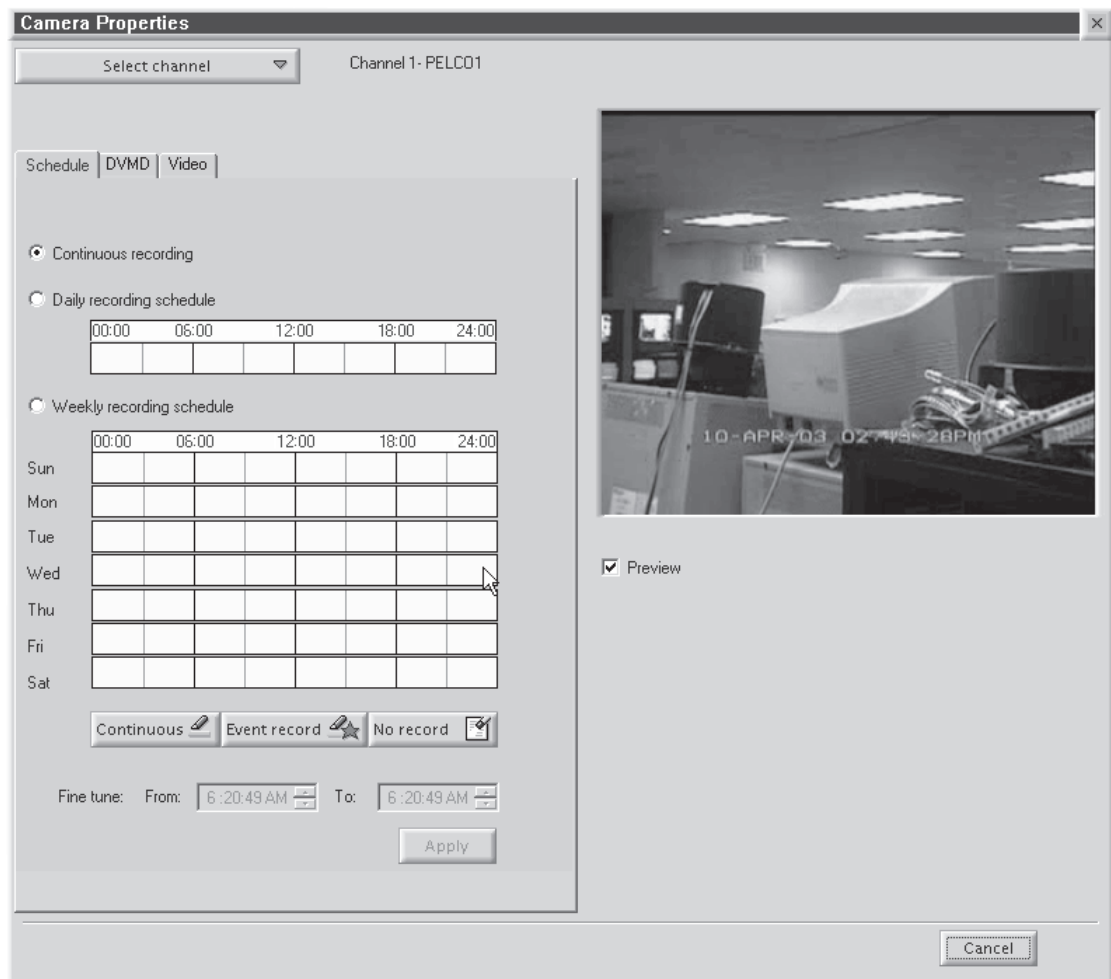

Figure 33. Continuous Recording Schedule Page
1. Select the "Continuous recording" radio button. This is the default setting and should be selected already when you select a channel. Refer to Figure 33.